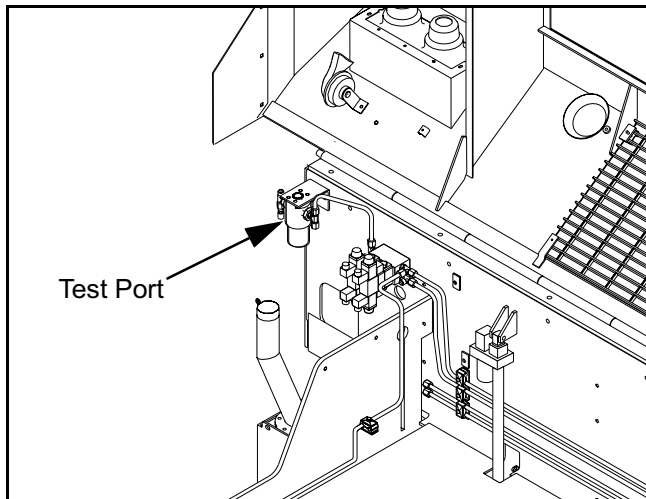

Figure 5 - 25 Auxiliary Pressure Test Port
- 1) Install a pressure gauge (3000 psi) at the auxiliary pump filter test port. (Figure 5 - 25)